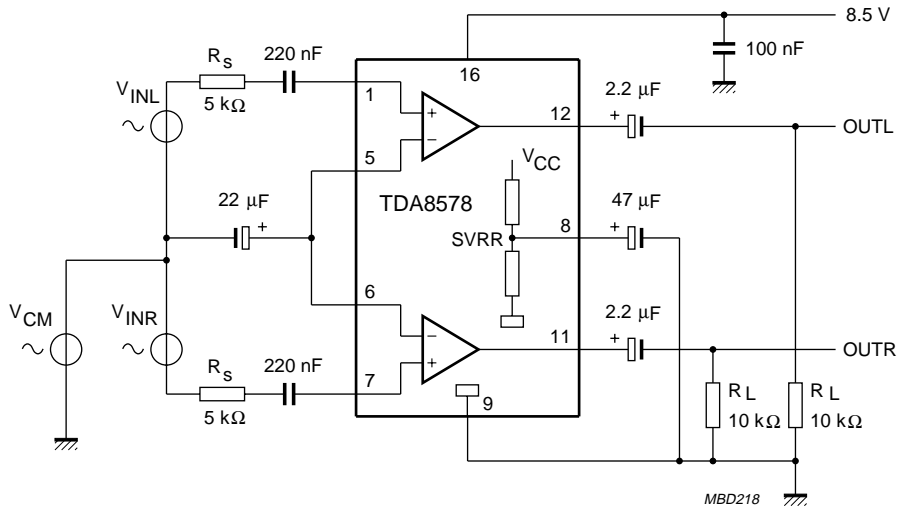

Fig.3 Test circuit.
$V_{CC} = 8.5\text{ V}$ ;  $T_{amb} = 25\text{ °C}$ ; in accordance with test circuit (see Fig.3); unless otherwise specified.
$V_{CC} = 8.5 \text{ V}$ ;  $f = 1 \text{ kHz}$ ;  $T_{amb} = 25 \text{ }^\circ\text{C}$ ; in accordance with test circuit (see Fig.3); unless otherwise specified.
3. The common-mode rejection ratio is measured at the output, with a voltage source of 1 V (RMS), in accordance with test circuit (see Fig.3), while  $V_{INL}$  and  $V_{INR}$  are short-circuited. Frequencies between 100 Hz and 100 kHz.